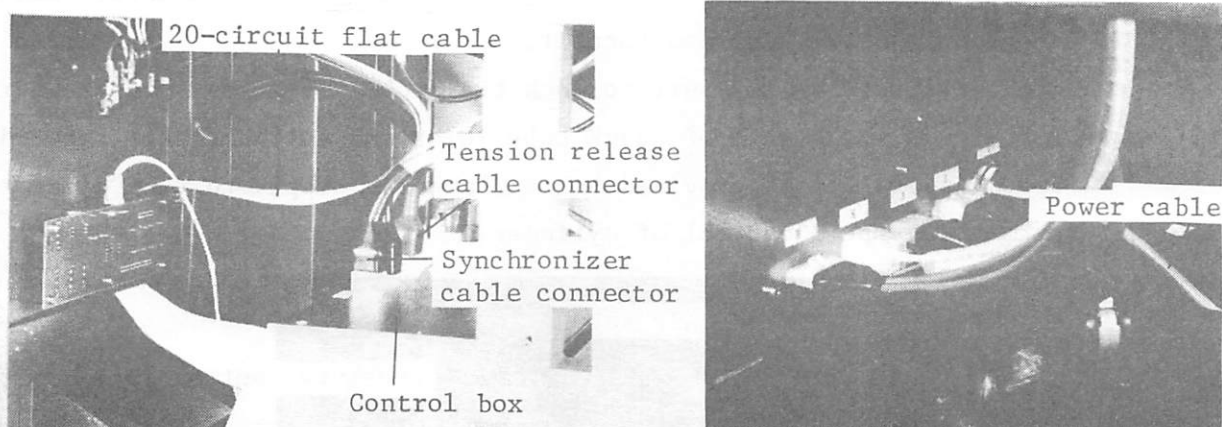

Fig. 4.3 View when right side cover is removed
- The connectors of synchronizer cable, tension release cable, 20-circuit flat cable from the operation panel on the machine head, and the power cable should be installed as shown in Fig. 4.3.